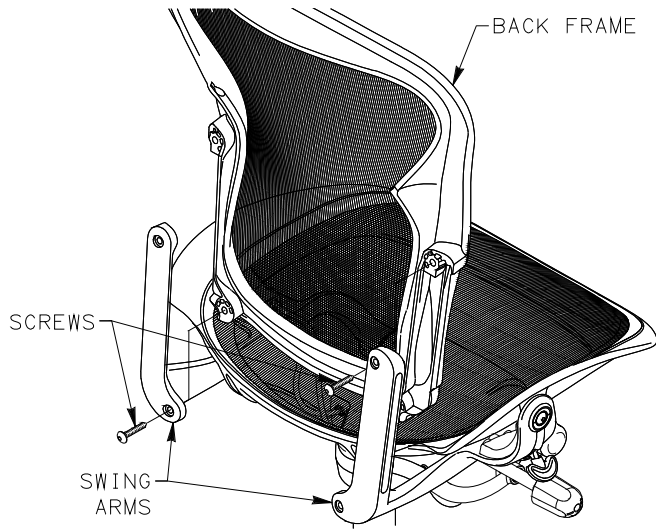

FIGURE 1
✂. WHILE SUPPORTING BACK FRAME USE 5MM HEX BIT AND RATCHET WRENCH, TO REMOVE (4) SCREWS ATTACHING BACK FRAME TO SWING ARMS. SET ASIDE SCREWS. REMOVE BACK FRAME AND SET ASIDE. SEE FIGURE 1.
7. INSTALL ARM PAD ONTO ARM PAD SUPPORT BY INSERTING TAB ON ARM PAD SUPPORT INTO SLOT IN ARM PAD AND PIVOTING DOWN ONTO ARM PAD SUPPORT. SECURE WITH SCREWS. SEE FIGURES 1 & 11.
8. PLACE BACK FRAME UP TO SWING ARMS ALIGNING HOLES. SECURE WITH SCREWS. TIGHTEN AND TORQUE SCREWS TO 70-100 IN-LBS. SEE FIGURE 1.